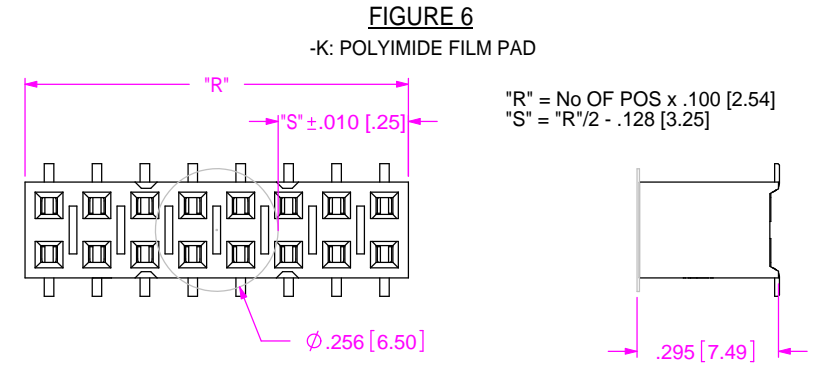

FIGURE 6
- K: POLYIMIDE FILM PAD (POS 2 THROUGH 40 - SEE NOTE 5) (USE K-500-300, SEE FIG 6, SHT 2)